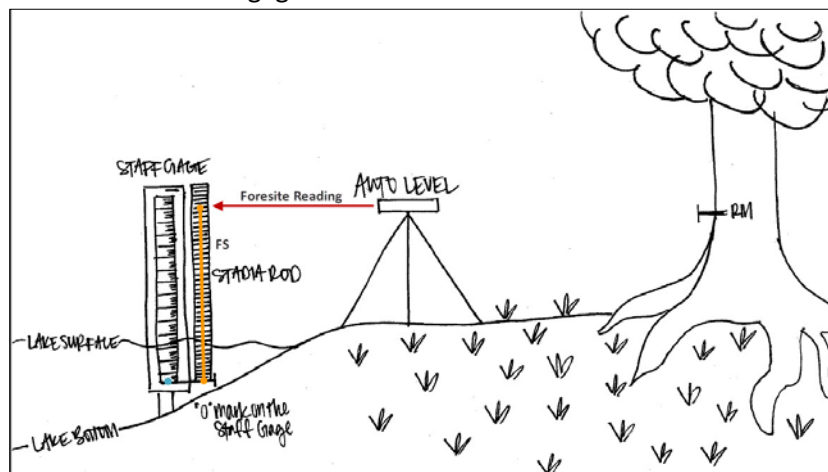

Figure 7. Taking a foresite reading (FS) of a staff gage with an auto level and stadia rod
6. Place the rod on the heavy stainless steel lag bolt at '0.00' marker of the staff gage and read the rod through the survey instrument. This reading is called your foresite reading, FS (Figure 7).